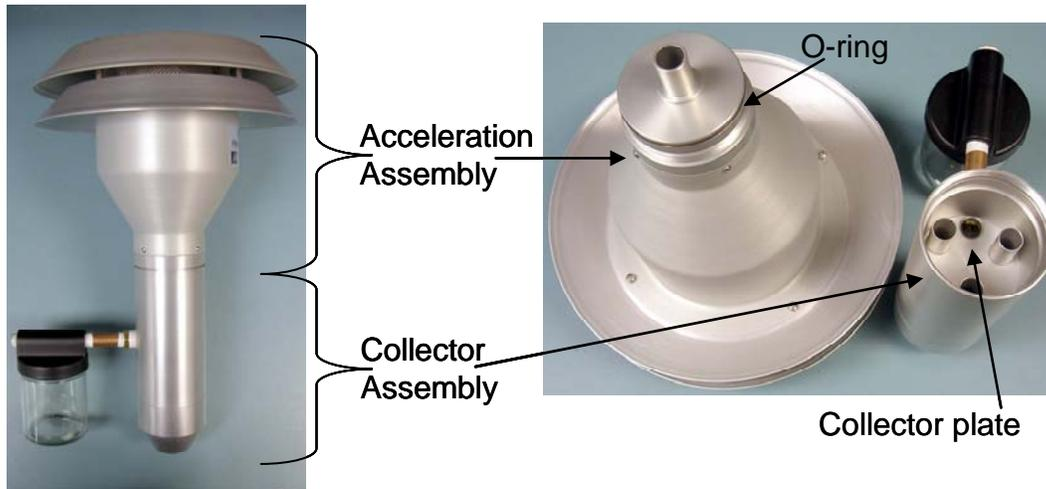

Figure 10-4. The PM10 inlet has two primary components, the Acceleration Assembly and the Collector Assembly.
The PM10 inlet needs to be disassembled and cleaned periodically. As a general recommendation, the inlet should be cleaned every 30 days (same schedule as FRM, with a 30-day maximum for the VSCC™). Instruments in environments with high ambient PM10 concentrations or in areas prone to fugitive dust emissions may require more frequent cleaning of PM10 inlets than those in cleaner environments. Some agencies clean FEM inlets on the same schedule as an FRM inlet (monthly). Met One currently recommends that the particle trap (or collector plate) located in the top part of the Collector Assembly (**Figure 10-4**) be cleaned monthly, and that the acceleration chambers be cleaned quarterly. (The California Air Resources Board [CARB] requires cleaning both sections on a monthly schedule.) Met One offers a BAM Inlet Cleaning Kit specifically for this purpose (PN BX-344), which includes a pull-rope, tube brush, microfiber rags, cleaning brushes, o-ring grease, and cotton applicators. Generic equivalents of these items may be used (soft bristled paint brushes, pipe cleaners, “lint free” cloths etc.). A #2 Phillips screwdriver is needed to remove the top plates from the acceleration assembly of the PM10 inlet. Hands should be clean for this procedure.
2. Unscrew the Collector Assembly (Figure 10-4, bottom portion of inlet) from Acceleration Assembly (Figure 10-4, top portion of inlet).